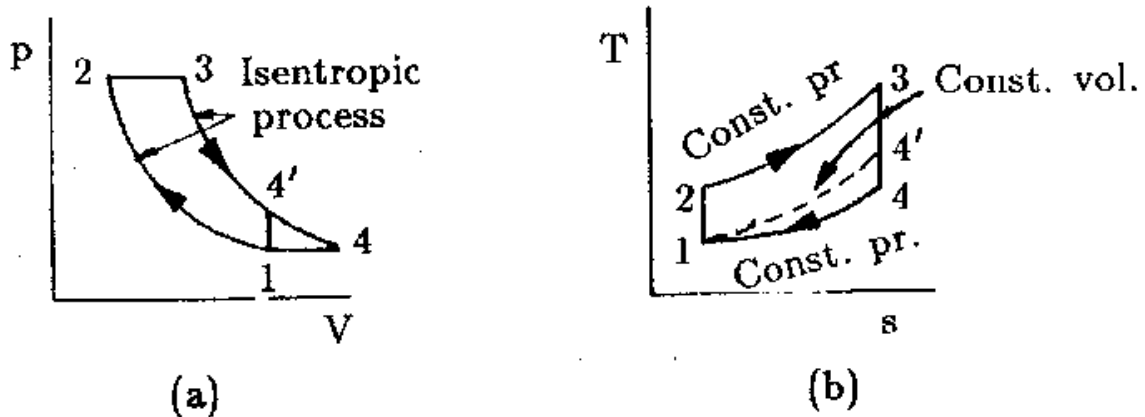

Fig. 3.15 Brayton Cycle
- This cycle consists of two reversible adiabatic or isentropic processes and two constant pressure processes (Fig. 3.15).